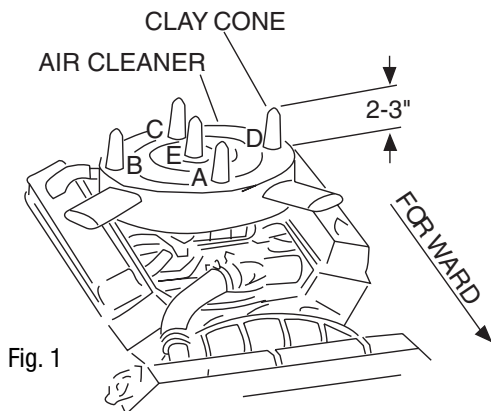

Fig. 1
2. Position stools on air cleaner at front, rear, each side and on center stud. See Figure 1.